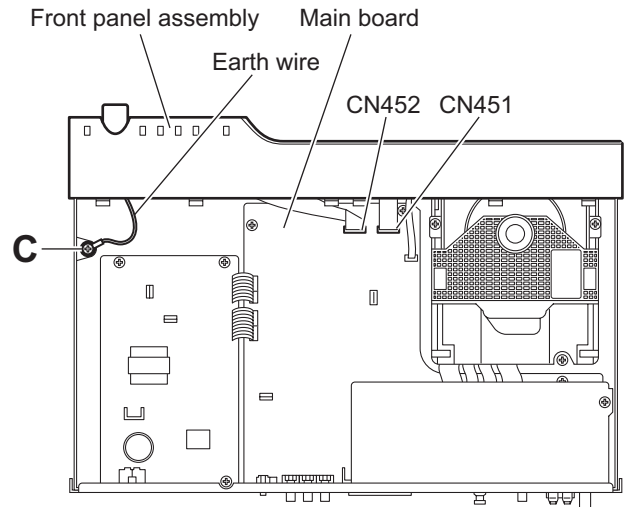

Fig.4
3.1.2 Removing the front panel assembly (See Figs.4 and 5)
- (1) From the top side of the main body, disconnect the parallel wires from the connectors CN451 and CN452 on the main board. (See Fig.4)
- (2) Remove the screw **C** attaching the earth wire to the main board. (See Fig.4)
When attaching the screw **C**, attach the earth wire with it. (See Fig.4)